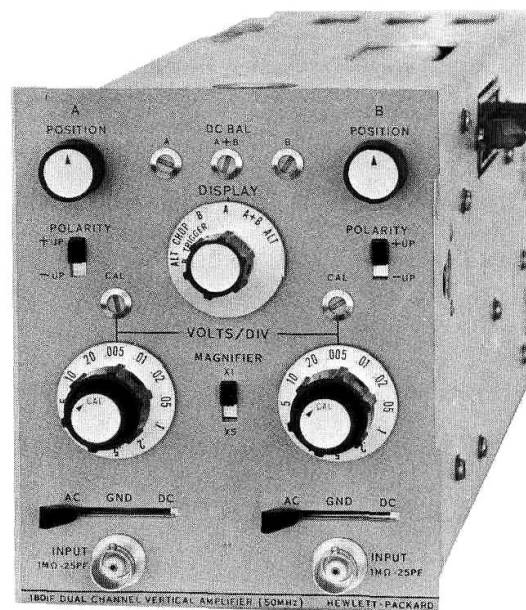

Figure 1-1. Model 1801F Dual Channel Vertical Amplifier
1-2. The Hewlett-Packard Model 1801F Dual Channel Vertical Amplifier (shown in Figure 1-1) is a ruggedized, militarized wideband plug-in unit for the HP Model 180-series Oscilloscopes. The Model 1801F meets all requirements of the military environmental specifications, Mil-0-24311 (DC) providing the plug-in is used in a Model 180F system. Dual channel capability allows display of one signal alone or two signals simultaneously. Two waveforms can be superimposed, each with the full 8-div amplitude. Each channel of the plug-in has a bandwidth of 50 MHz, a risetime of less than 7 nsec, and a maximum calibrated deflection factor (sensitivity) of 5 millivolts per division. The minimum calibrated deflection factor is 20 volts per division and a vernier can extend the minimum sensitivity to 50 volts per division. The vertical sensitivity can be increased by a factor of 5. In X5 the bandwidth of the amplifiers is reduced to 20 MHz.